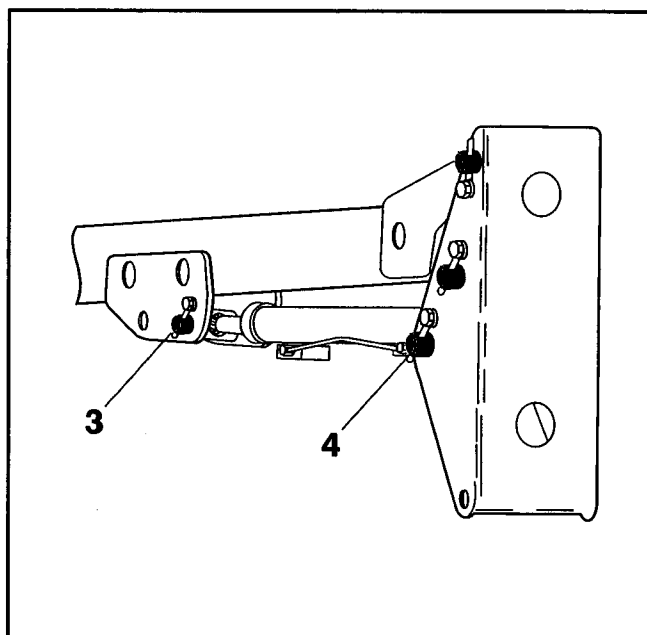

Figure 2-22. Mid Boom Lift Cylinder Removal.
• Mid Boom Lift Cylinder Removal. (See Figure 2-22.)